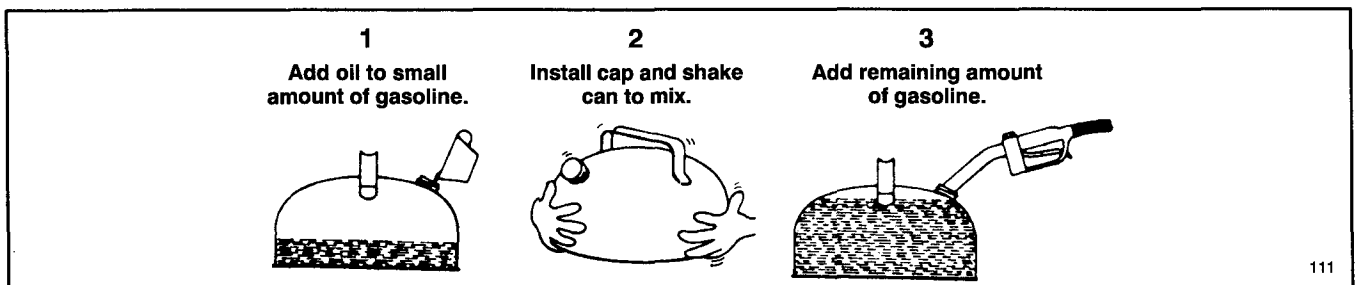

Figure 7
2. **Mixing Gasoline and Oil** (Fig. 7)—Pour correct amount of two-cycle oil into an approved gasoline container and add a 1.9 liters (half gallon) of gasoline. Install cap on gasoline container and shake the container to mix oil and gas thoroughly. Remove cap and add remaining amount of gasoline.